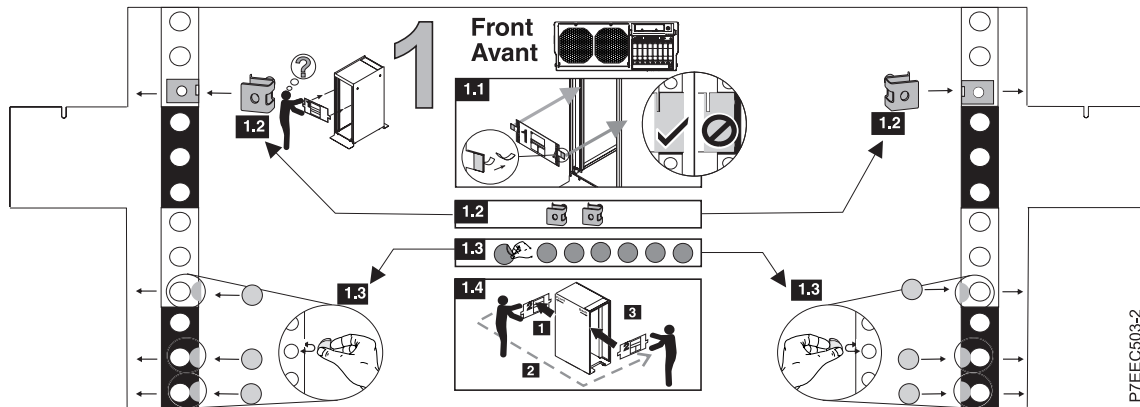

Figure 2. Rack-mounting template
**Note:** If a rack-mounting template is included with the product, as shown in Figure 2 on page 5, use the template to determine and mark the installation location. If you do not have the template, use this procedure to mark the installation location.